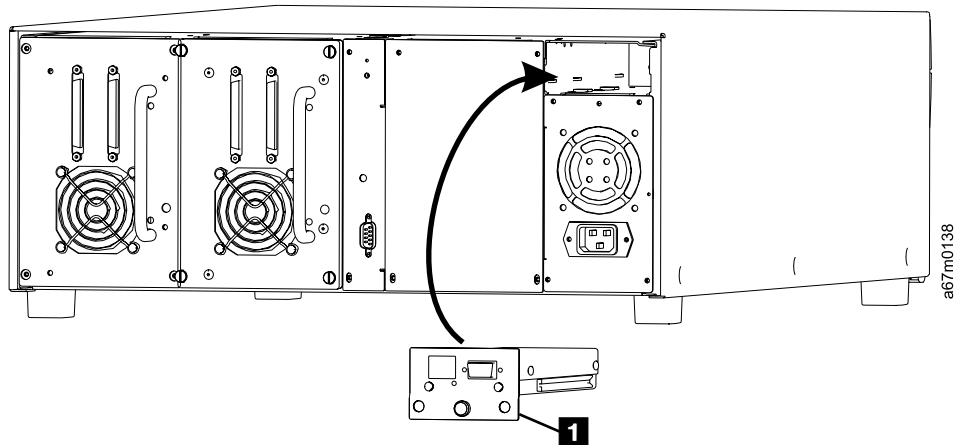

Figure 20. RMU module installation
4. Slide the RMU (see **1** in Figure 20) into position and tighten the thumbscrew.